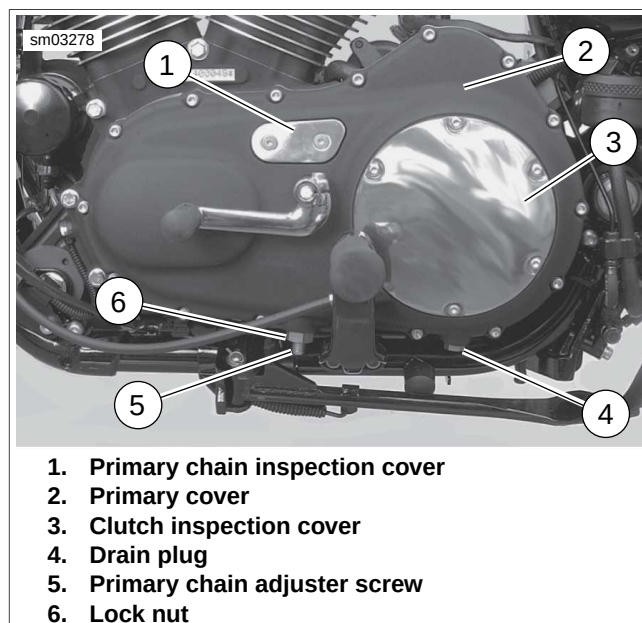
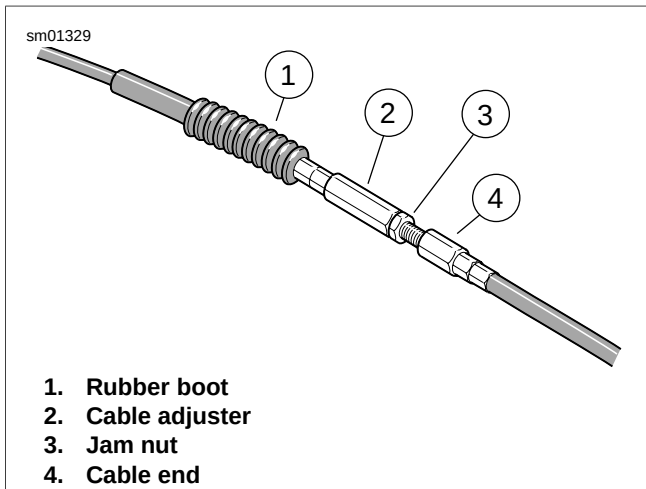
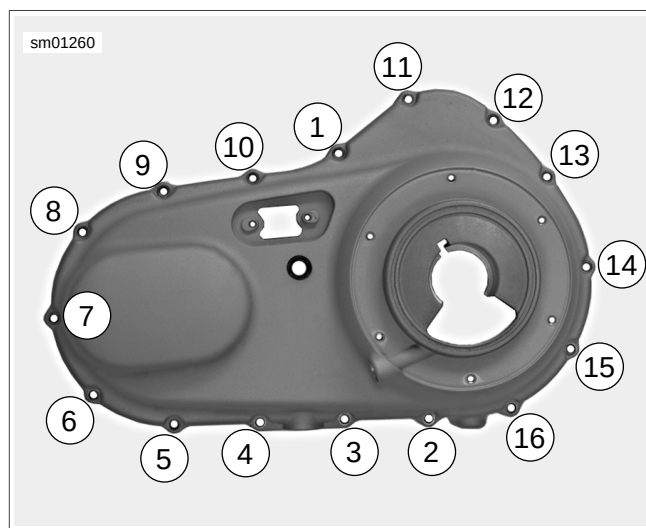

Figure 5-1. Primary Cover: All Models (XL Model Shown)
Figure 5-2. Clutch Cable Adjuster Mechanism
Figure 5-6. Outer Primary Cover Screw Tightening Sequence
6. See Figure 5-1. Place a drain pan under the engine. Remove drain plug (4) and drain lubricant from primary drive housing.
7. Loosen lock nut (6). Turn chain adjuster screw (5) counterclockwise to relax primary chain tension.
9. See Figure 5-2. Slide rubber boot (1) on clutch cable adjuster (2) upward to expose adjuster mechanism. Loosen jam nut (3) from adjuster. Turn adjuster to shorten cable housing until there is a large amount of freeplay at clutch hand lever. See 1.13 CLUTCH, Adjustment.
3. Install primary cover and gasket using sixteen screws with captive washers (11). Tighten to 100-120 **in-lbs** (11.3-13.5 Nm) in the sequence shown in Figure 5-6.
5. Install **new** o-ring (12) over cable end fitting (14) of clutch cable lower section. Turn fitting clockwise to install into primary cover (8). Tighten fitting to 36-60 **in-lbs** (4.1-6.8 Nm).
6. Fit coupling (6) over cable end (13) with rounded side of coupling inboard and ramp connector button outboard. With retaining ring side of ramp assembly (5) facing inward, place hook of ramp around coupling button and rotate assembly counterclockwise until tang on inner ramp (17) fits in slot of primary cover (8).
7. Thread nut (4) on adjusting screw assembly (9) until slot of screw is accessible with a screwdriver. Fit nut hex into recess of outer ramp (15) and turn adjusting screw counterclockwise until resistance is felt. Back off adjusting screw 1/4 turn.
8. Slide lockplate and spring (3) onto flats of adjusting screw. If necessary, turn adjusting screw clockwise slightly so that lockplate slides onto flats while also fitting within recess of outer ramp.
10. Install **new** quad ring (7) in groove of primary cover. Verify that quad ring is fully seated in groove.
11. Install six screws (1) to secure clutch inspection cover (2) to primary cover. Tighten screws in a crosswise pattern to 84-108 **in-lbs** (9.5-12.2 Nm).
12. See Figure 5-2. Turn cable adjuster (2) clockwise away from jam nut (3) until slack is eliminated.
14. See Figure 5-2. Hold cable adjuster (2) with 1/2 inch wrench. Using 9/16 inch wrench, tighten jam nut (3) against cable adjuster. Cover cable adjuster mechanism with rubber boot (1).